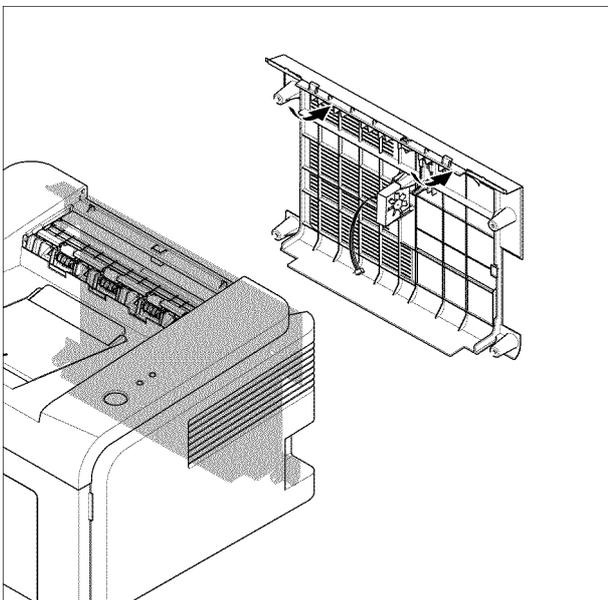

Figure 5
5. Remove the rear cover while disconnecting CN2 (Phaser 3124) / CN 6 (Phaser 3125) from the main PBA, Figure 5.